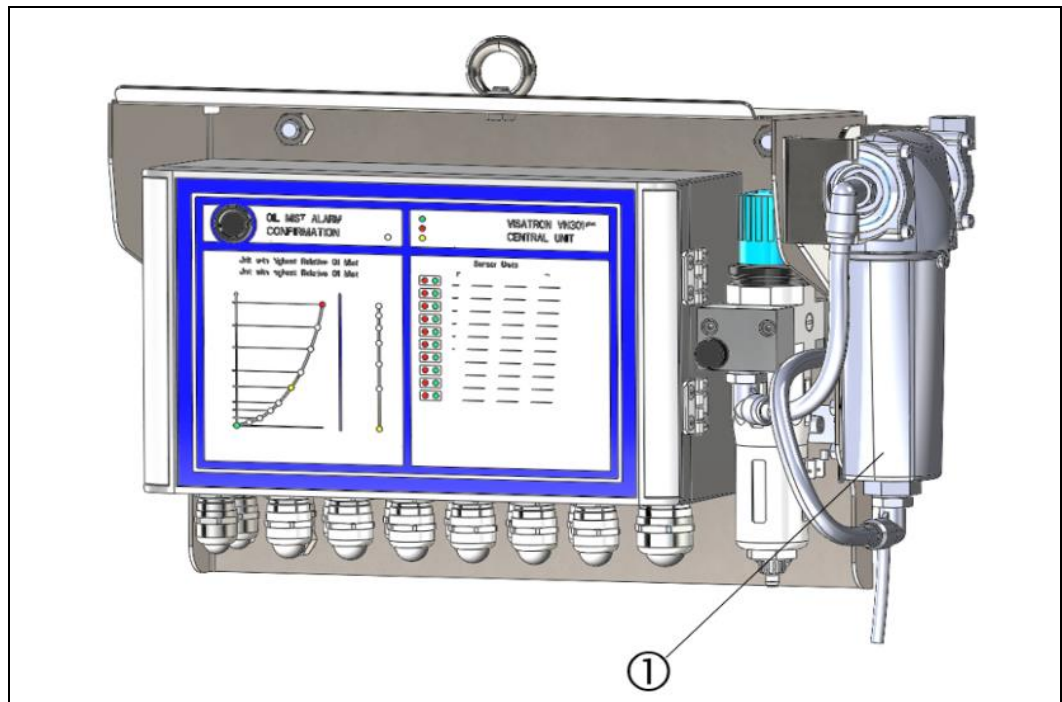

Fig.: 19 : VN301^{plus} central unit, version with water separator
- Water separator function (see Figure 19)